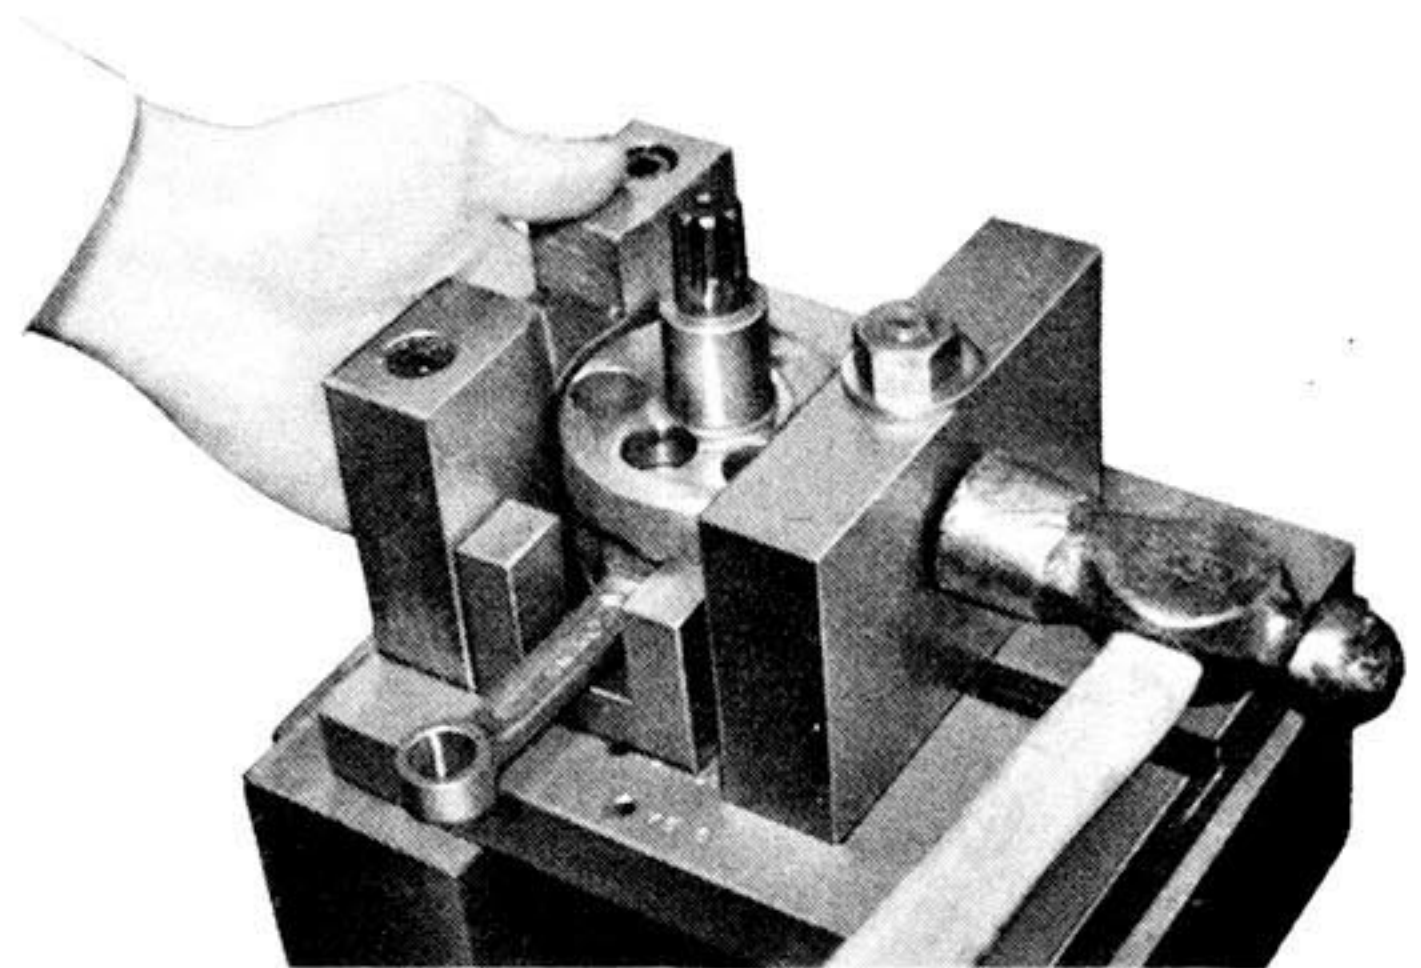

Fig. 4-17-14
- 3) Place the other crank wheel in position and lightly tap it onto the crank pin. Keep the crank wheel horizontal when tapping it in place. Position the slide plate against the rim of the crank wheel, and tap the slide plate until it contacts the crank wheel (to align the crankshaft temporarily) using a brass hammer. (Fig.4-17-14)